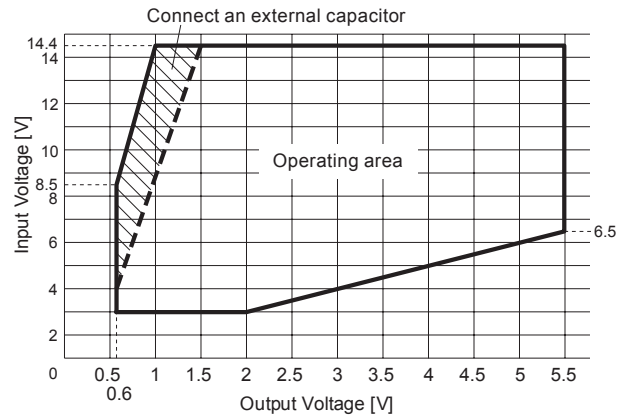

Fig.3.5 Operating area of BRNS series
- Please use the output voltage in the operating area of Fig.3.5